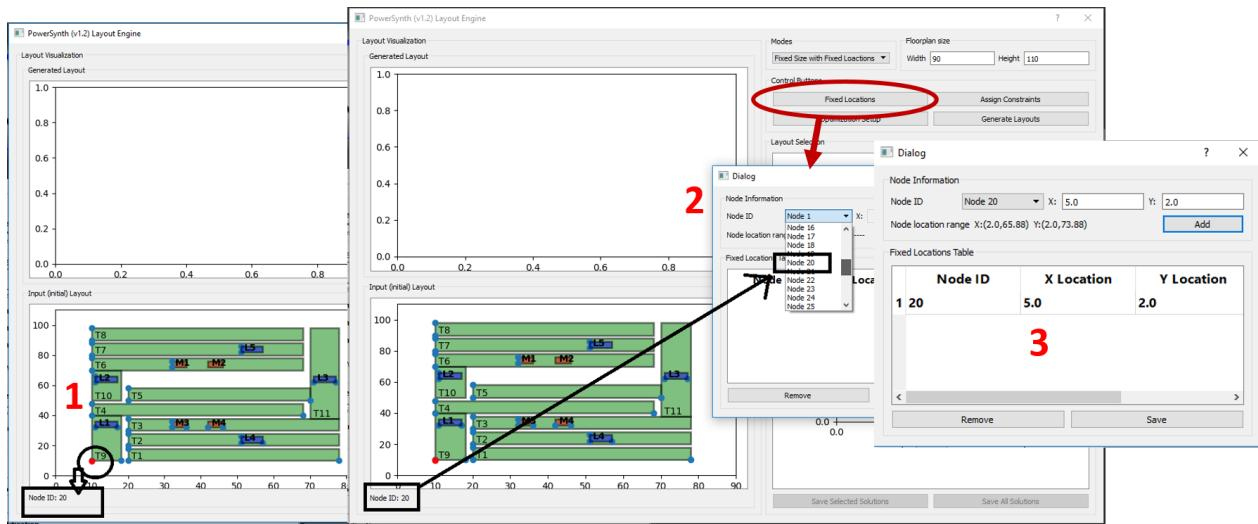

Figure 5: Fixed Location Setup
- **Fixed Size with Fixed Locations:** In this mode, “**Width**”, “**Height**” must be given. Besides, one additional requirement is the “**Fixed Locations**”. This button is used for allocating fixed coordinates to the desired nodes. On this mode, the input layout is updated with click-able dots on possible nodes of the layout as shown in Fig. 5 with marked as "1". To fix a node at certain coordinate, user needs to click on the node and the "Node ID" will appear at the bottom. Then, “**Fixed Locations**” button needs to be clicked to find the desired "Node ID". Upon selecting the "Node ID" from the drop down list, the valid x and y coordinate range will appear for that node. User needs to choose a value within the range and then "Add" button needs to be clicked to store the location. In the similar way, as much nodes as user want can
provide fixed location and then "Save" button needs to be clicked to apply the location values to the generated layout. A flow is shown in Fig. 5